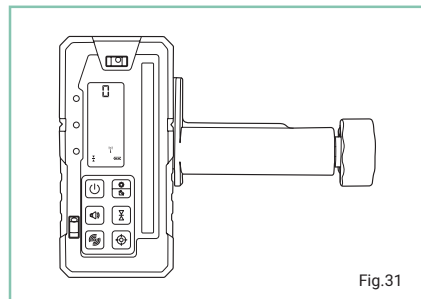

Fig.31
- Press and hold both the **power** and **wireless connection button** to enter channel mode. The **wireless connection indicator** will flash and the current wireless connection channel will be displayed on the LCD screen (Fig.31).